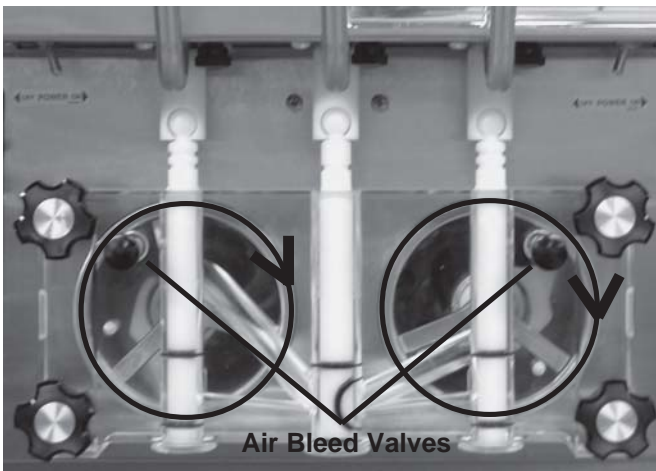

Figure 19. Air Bleed Valves
- Place the mix pump switch in the ON position and open air bleed valve on the front door by pushing valve in and holding (see Figure 19).